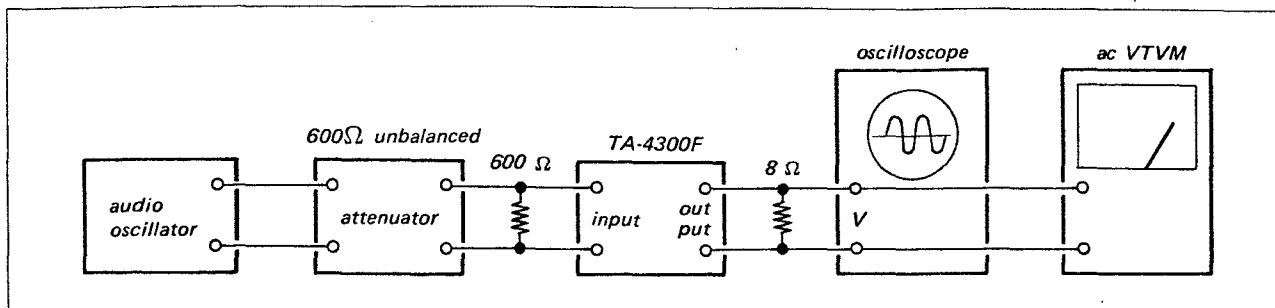

Fig. 3-1 Level check test setup
With the equipment connected as shown in Fig. 3-1,
Connect the equipment as shown in Fig. 3-1. Then, set the controls and switches as follows:
1. With the equipment connected as shown in Fig. 3-1, feed a 1 kHz, 2 dB signal to the INPUT connectors.
1. With the equipment connected as shown in Fig. 3-1, adjust the LOW LEVEL control to obtain a 0 dB output signal level when supplying a 20 Hz, +2 dB signal and the BASS BOOST switch (S2) is set to 0 dB.
1. With the equipment oconnected as shown in Fig. 3-1, check the output level while changing the input signal frequency as directed in the Table 3-6.